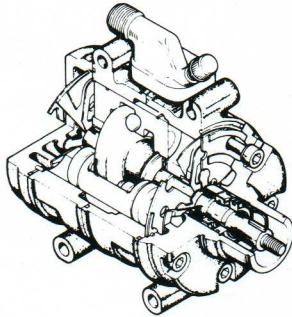

Figure 215-2
**Compressor** (Figure 215-2): It's critical that only gas be drawn into the compressor. If liquid enters, it will cause a hydrostatic lock in the compressor and stall it. The gas drawn in is compressed to over 14.1 kg/cm2 (201 psi, 1,383 kPa), which causes it to get very hot.